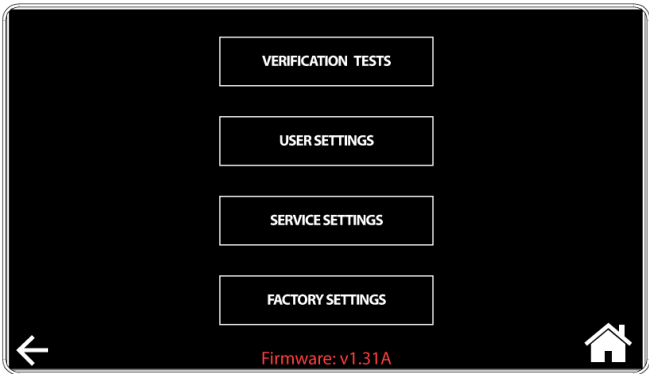
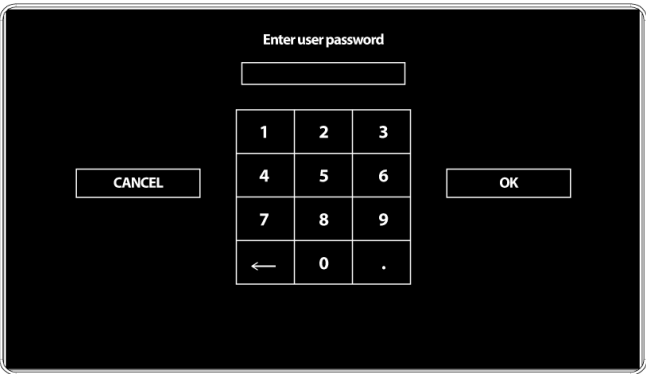

Figure 3-16
Figure 3-17
3.5.1. Navigating to the Settings Menu Screen (Figure 3-16) and selecting **Service Settings** will send the display to the Service Settings Password Screen (Figure 3-17). Enter 3 5 5 6 and press OK.